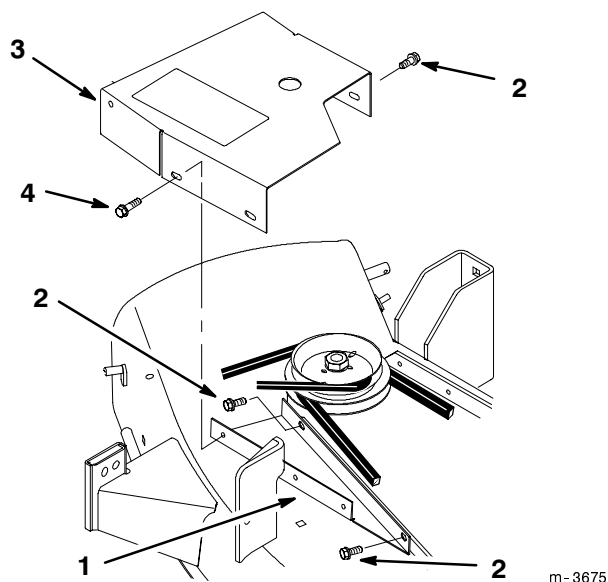

Figure 13
1. Attach the belt cover bracket to the mower deck with (2) 1/4 x 3/8" (10 mm) screws (Fig. 13).
2. Attach the front of the mower belt cover loosely to the belt cover bracket with (2) 1/4 x 1/2" (13 mm) screws. Attach the back of the mower belt cover loosely to the mower deck with a 1/4 x 3/8" (10 mm) screw (Fig. 13).